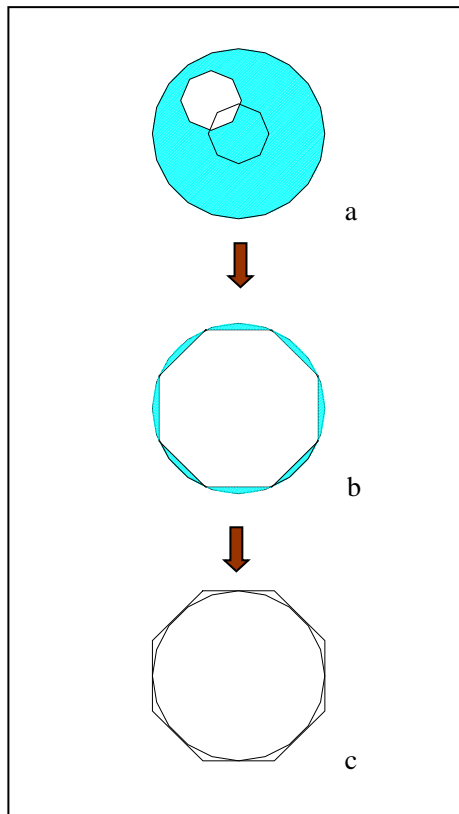

Fig 2
1. Switch the light shutter ① to “●” position.
3. Switch the light shutter ① to “O” position.
5. Pull the field iris diaphragm lever ② out until the diaphragm comes into the smallest state.
6. Use the hexagonal wrench to adjust the two field iris diaphragm centering screws alternately to move the image of the diaphragm to the center. (Fig.2 show the adjustment of diaphragm)
#### Adjusting the field iris diaphragm (fig.2)